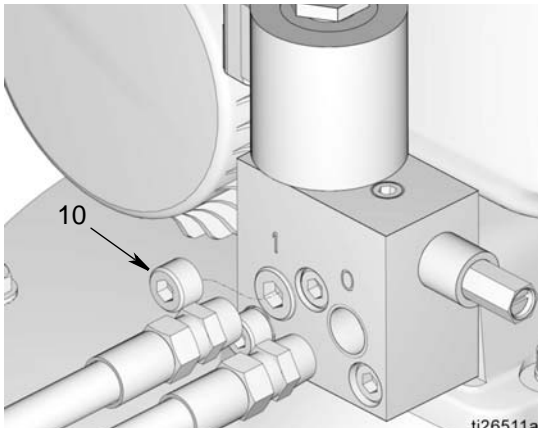
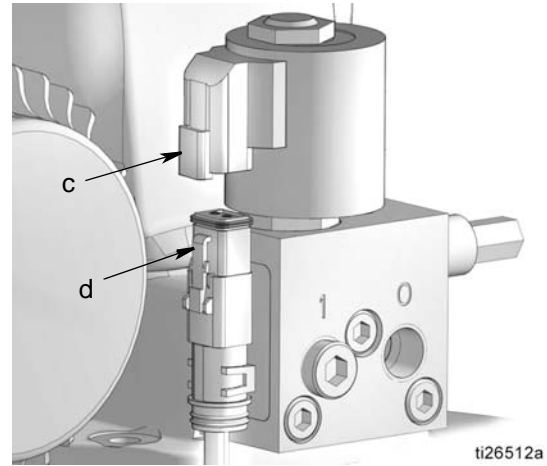

FIG. 6
FIG. 7
9. Install lubrication line to vent valve pump outlet port marked "0" (FIG. 6).
10. In the inlet port marked "1" (FIG. 6) install either:
- a plug (10).
11. Connect cable (d) to valve cartridge (c) (FIG. 7).